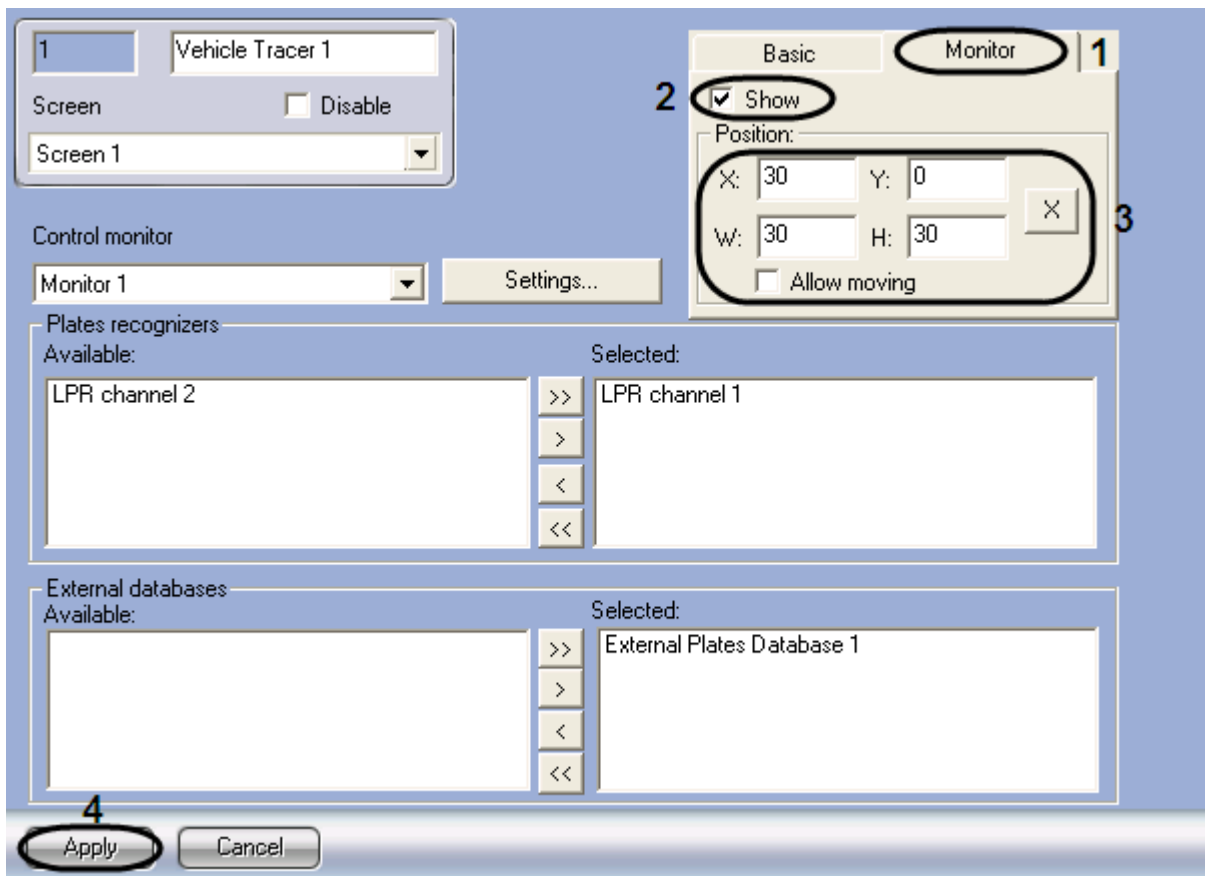

Fig. 7.8-4 Setting up the Events monitor component position
1. Go to the Vehicle tracer settings panel (Fig. 7.8-4).
2. Go to the Monitor tab (Fig. 7.8-4, 1).
3. To display the Events monitor component set the Show checkbox (Fig. 7.8-4, 2). Settings of the Events monitor component position will be activated in result.
4. Set the coordinates and sizes of the Events monitor in a similar way as with the component Active monitor (Fig. 7.8-4, 3, steps 3-5 in the section « Setting up the Active monitor component position Setting up the Active monitor component position).
5. Click Apply to save the applied changes (Fig. 7.8-4, 4).